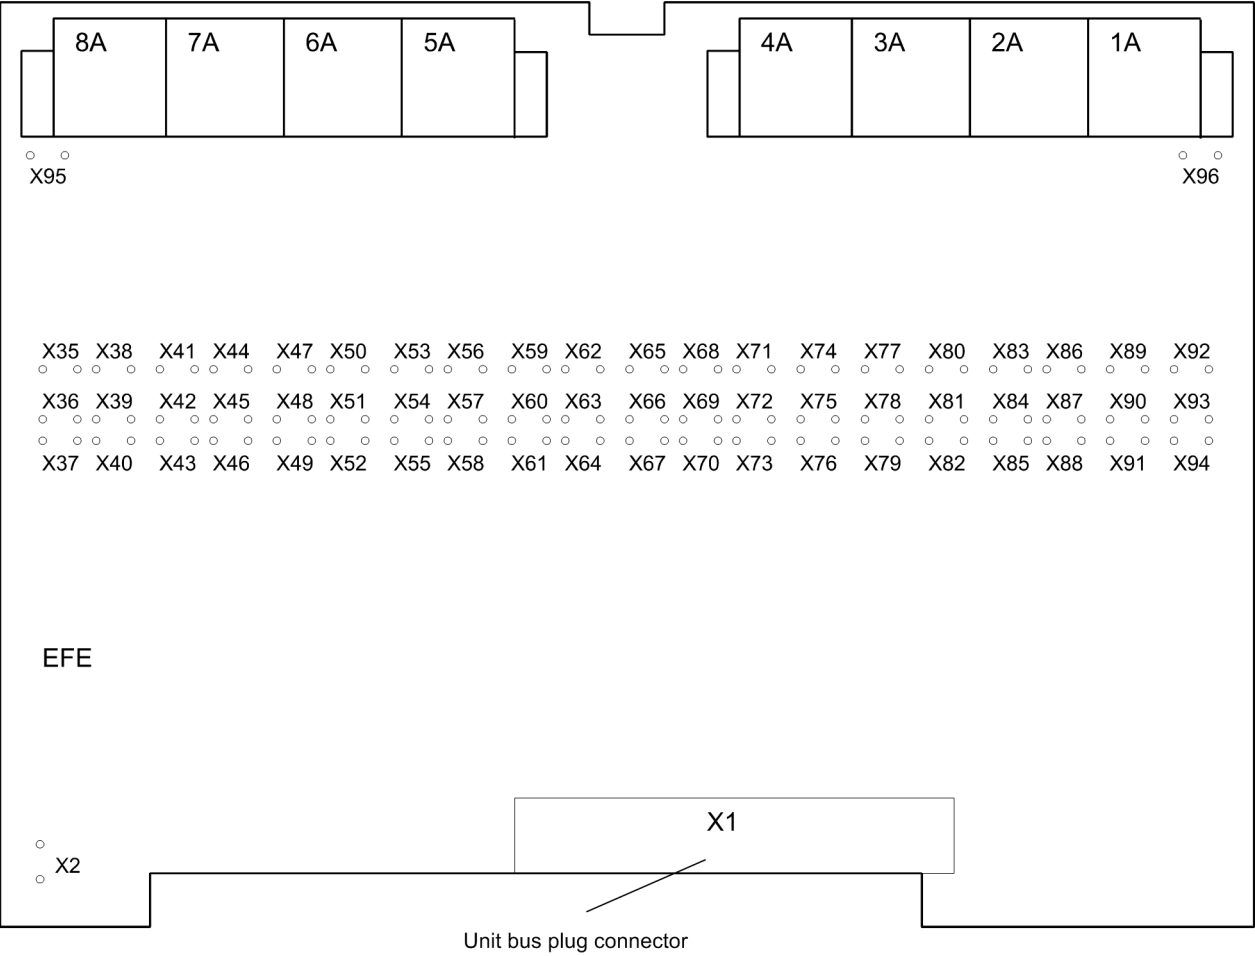

Figure 3-3 Location of the jumpers on the EFE module (bay unit 7SS523)
- ❑ Remove the plug connector X1 to the front plate on the EFE module (Figure 3-3, page 34) and pull out the module.
- ❑ Change the rated control voltages of the binary inputs to the desired settings, see Figure 3-3, page 34 and Table 3-3, page 35.